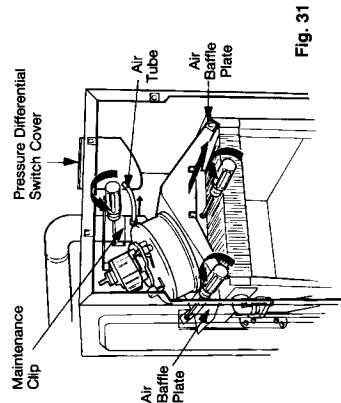

Fig. 31
- 8.10.2** Loosen maintenance clip securing screws (see fig. 31) and slide upwards to clear joint.
Remove 3 flue hood retaining screws (see fig. 31)
- 8.11.1** Refer to fig 31
Remove 3 screws holding pressure differential switch cover (fig. 31) and remove cover.